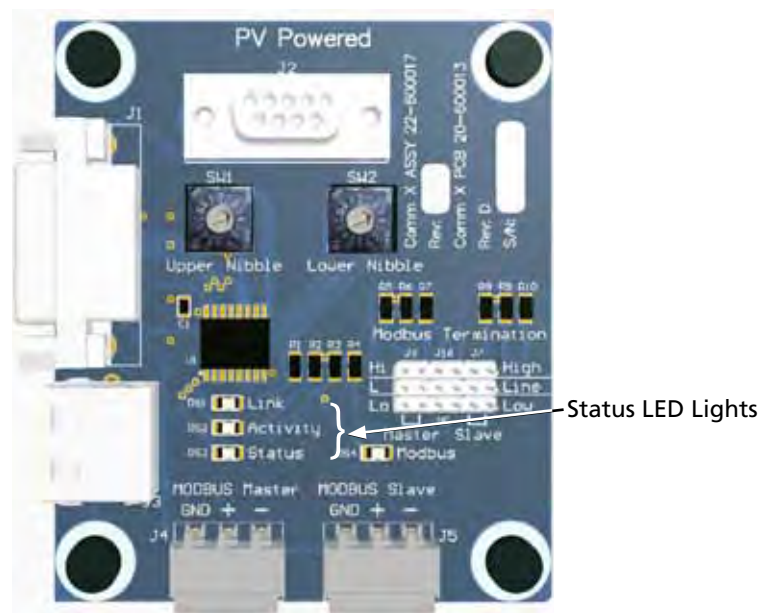

Figure 7-8 Communications Interface PCB LEDs
- Communications interface PCB – The additional set of LED lights are on the communications interface PCB. These four lights are surface mount LEDs located near the Ethernet connector. Refer to Figure 7-8. These lights are redundant and are synchronized with communication PCB LEDs.